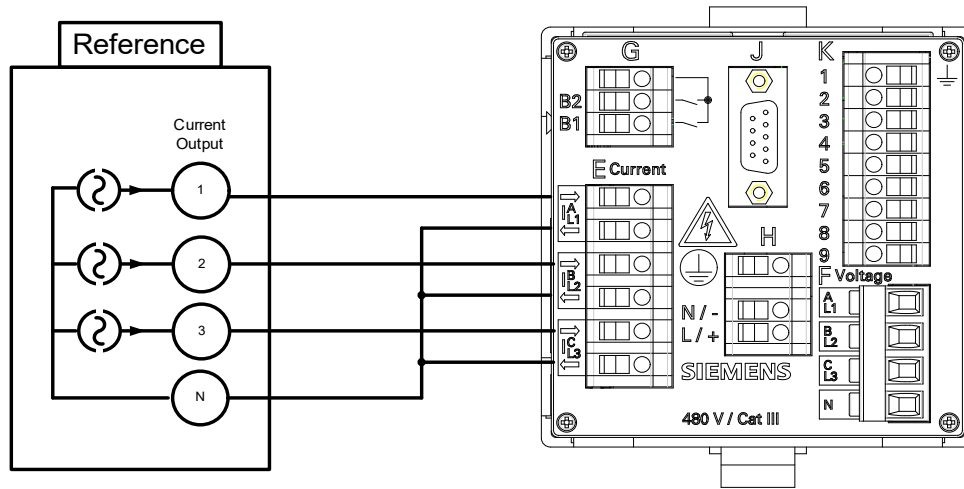

Fig. 10-4 Measurement Setup for Calibrating the AC Current Measuring Range
Calibration is only possible with symmetrical phases (3 x 120°), see figure 10-4.
- ◇ Set up the measurement as shown in figure 10-4.